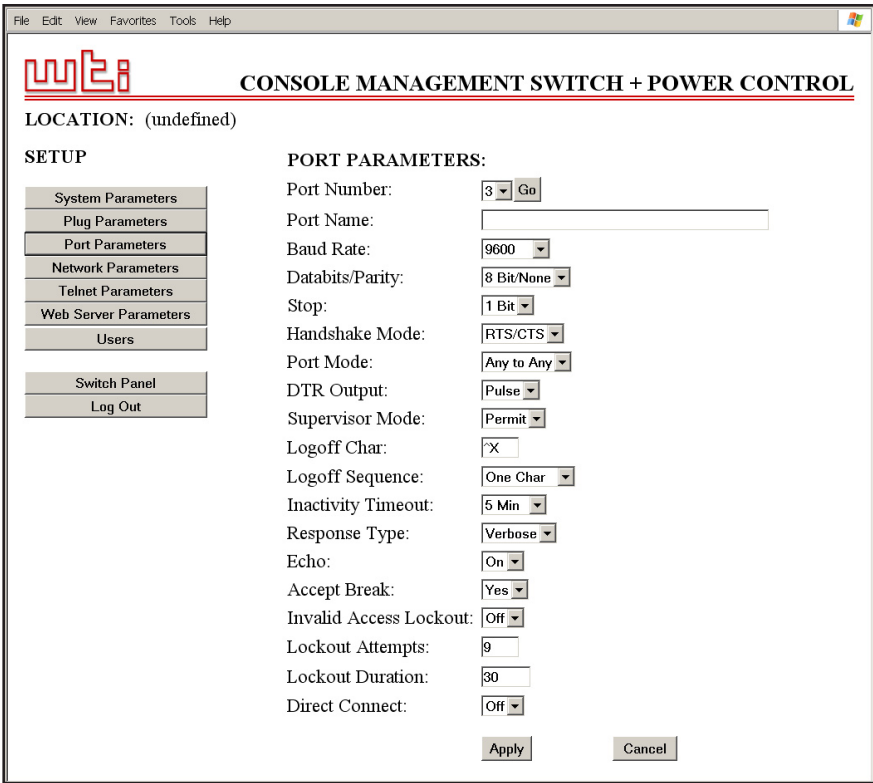
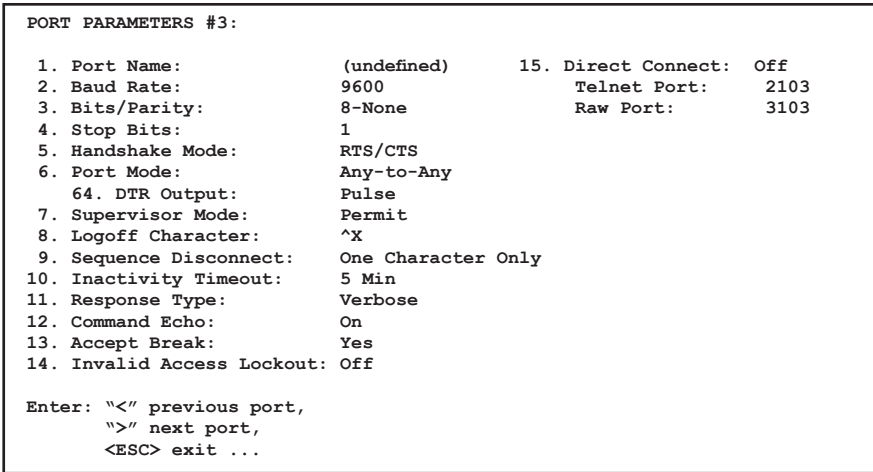

Figure 5.14: Port Parameters Menu - Web Browser Interface
Figure 5.15: Port Parameters Menu - Text Interface (Port 3 Shown)
- **Web Browser Interface:** Click the "Setup" button to access the Setup Menus, and then click the "Port Parameters" button. The Port Parameters Menu will be displayed as shown in Figure 5.14.
- **Text Interface:** Type `/P n` and press **[Enter]** (where **n** is the number or name of the port that you wish to configure.) The Port Parameters Menu will be displayed as shown in Figure 5.15.
As shown in Figure 5.14 and Figure 5.15, the Port Parameters Menus allow you to define the following parameters:
When Any-to-Any Mode, Passive Mode, or Buffer Mode is selected, the CMS-6R4 will display the DTR Output Prompt as shown in Figure 5.15. The DTR Output prompt is not displayed when Modem Mode is selected.